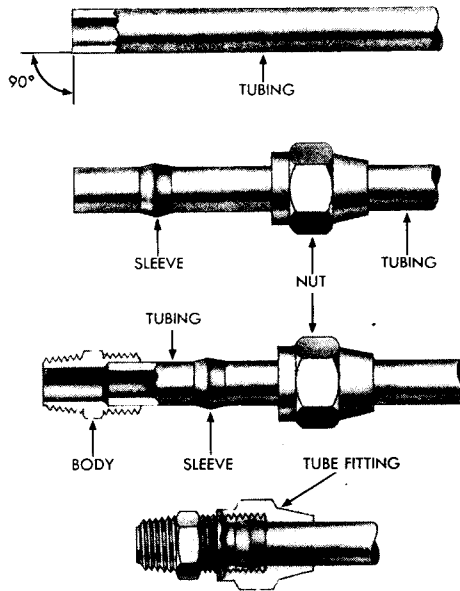

Figure 72 – Fitting and Tubing Installations
(1) **TUBING** (fig. 72). Cut new tubing same length as that being replaced. Cut ends square, and smooth up with a file; slide nut and sleeve on each end. Bend tubing to shape of original piece, avoiding sharp bends. Bend tubing $\frac{3}{8}$ inch in diameter on a 3-inch radius; bend tubing $\frac{1}{2}$ inch in diameter on a 4-inch radius.